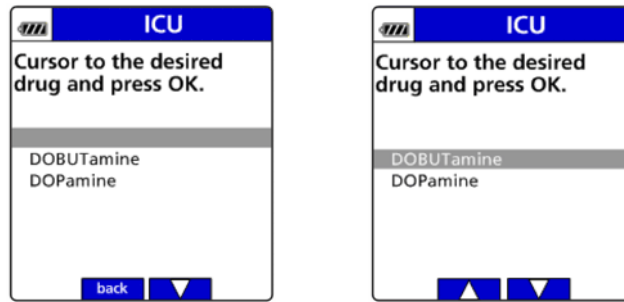

Figure 31. Drug Identification and Drug Selection Screen.
5. Press the arrow soft keys to move the cursor to the desired drug name and press **OK**. See Figure 31.